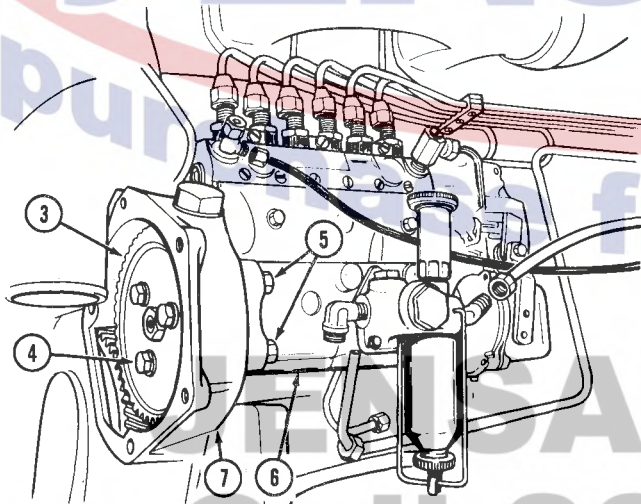

Figure 6
5. Remove the fuel pump drive gear (3) and capscrews (4), Figure 6. Inspect the drive gear for visual damage or excessive wear. Remove the pump mounting nuts (5) and remove the fuel pump (6) from timing gear cover (7).